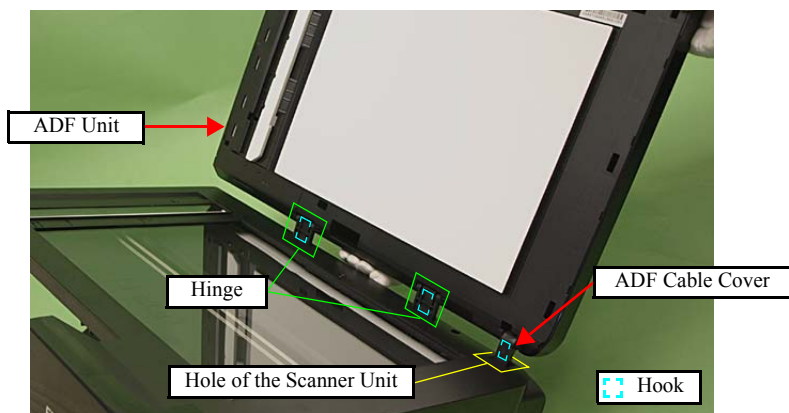

Figure 4-5. Removing the ADF Unit (2)
6. Release the hooks (x2) of the Hinge and hook (x1) of the ADF Cable Cover from the rear side while holding the center of the ADF Unit. (See Fig. 4-5.)